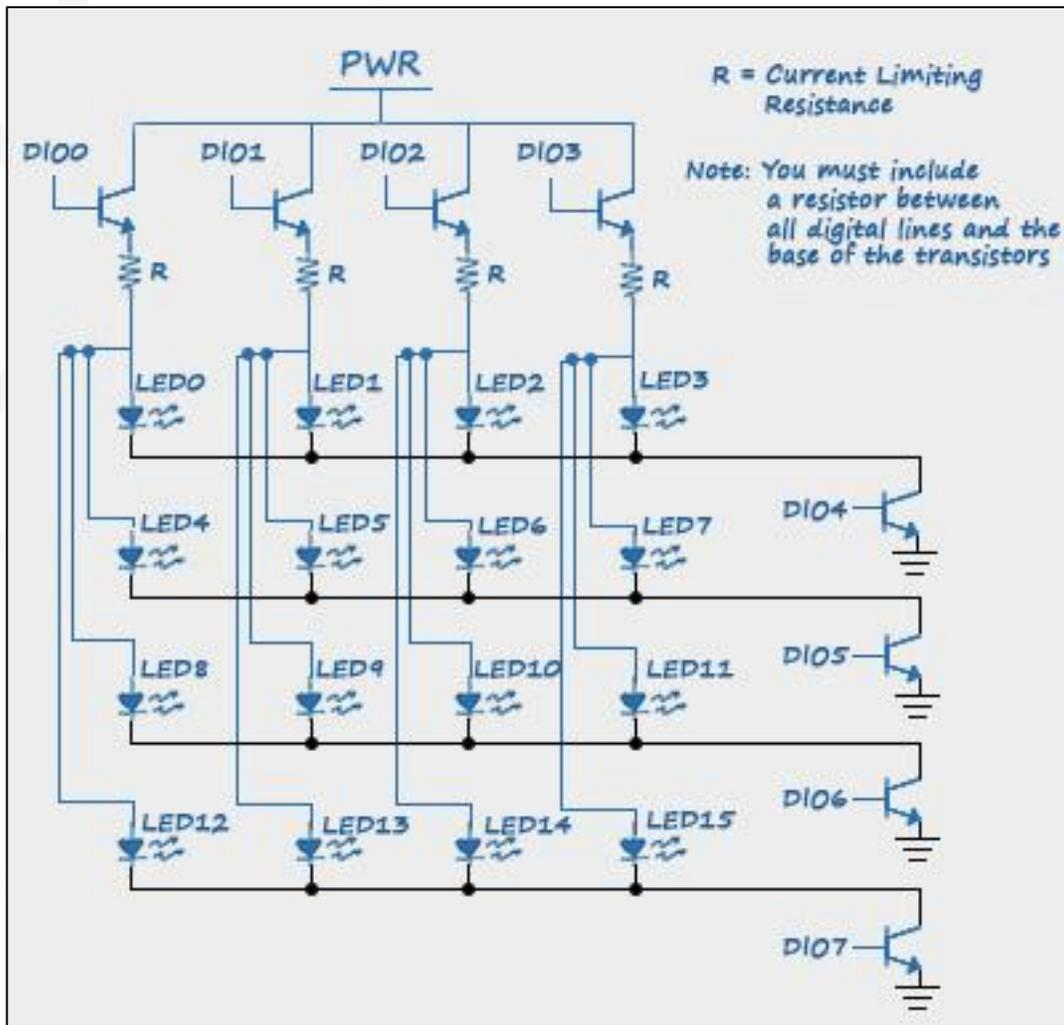

Figure 4 LED matrix wiring
**Task 1:** Wire 16 LEDs, 8 transistors and the 8 digital lines of your National Instruments hardware in the configuration shown in Figure 4. The external power supply is used to avoid drawing too much current from the digital lines.